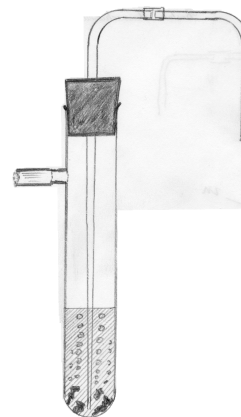

Figure 1.
Obtain a side-arm test tube, rubber stopper, Tygon and glass tubing needed to assemble the apparatus shown in the Fig. 1. (Some of these will already be preassembled.) Clamp the test tube securely on a ring stand and place inside the fumehood. Weigh out 1.0 g of potassium dichromate, being careful not to drop any of the compound on or around the balance (see MSDS). Weigh out 5.0 g of mossy zinc and transfer both the potassium dichromate and zinc to the side-arm test tube. Do not place the stopper and glass tubing on the test tube at this time. In a 30-mL beaker dissolve 4.5 g of sodium acetate trihydrate in 4 mL of deionized water. This solution may have to be gently heated on a hot plate in order to obtain complete solution. Make certain that this solution is at room temperature before proceeding.
Finally, when the solution is blue, indicating the presence of Cr(II), add fairly rapidly 10 to 15 more drops of the acid and immediately insert the stopper and glass tubing into the side-arm test tube. ***Be extremely careful not to jam the thin glass tubing into a piece of Zn at the bottom of the test tube. If you break the glass tip at this stage the experiment will likely be ruined.*** Adjust the clamp so that the test tube is vertical as shown in the Figure 1 and place the beaker containing the sodium acetate solution under the glass tubing with the 90° bend. Pinch off the Tygon tubing at the side-arm and allow the positive pressure of the hydrogen gas to carry the Cr(II) solution through the glass tubing into the beaker containing the sodium acetate solution. Transfer as much of the solution as possible without allowing the glass transfer tube to touch the sodium acetate solution. The deep red chromium acetate should immediately form. Immerse this beaker in an ice bath for a few minutes and prepare a filtration assembly using a 30-mL medium frit glass filter. Filter the cold deep red solution making certain not to suck too much air through the sample to avoid oxidation. As soon as the liquid is no longer visible break the vacuum and add 3 mL of the ice cold water. Suck the water through the filter and break the vacuum. Repeat the process with two more 3-mL water washes, one 5-mL ethanol wash, and one 5-mL of ether wash. Pass air through the sample for approximately 30 seconds then break the vacuum. Collect the sample, and spread it out on a filter paper or porcelain plate to allow the remaining ether to evaporate. Place the sample in a tared sample bottle and weigh to determine the yield of product.